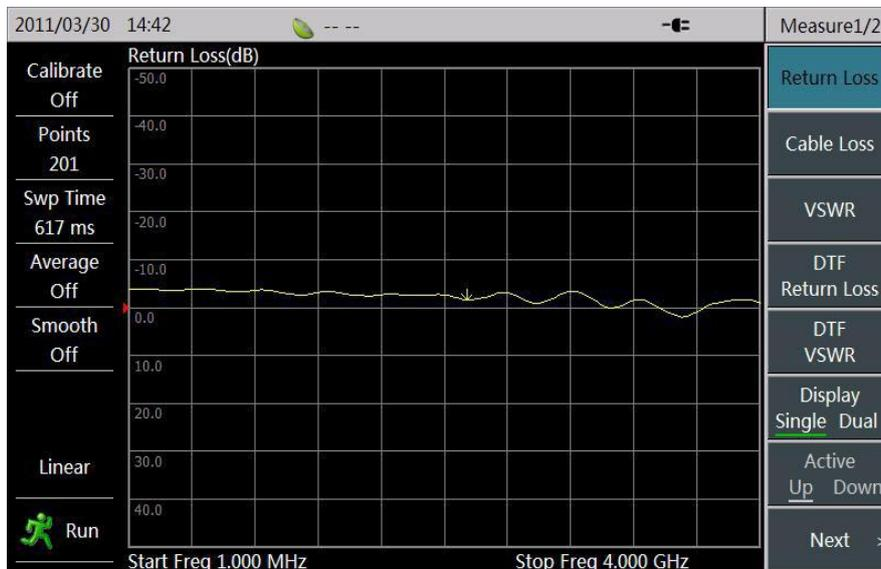

Figure 3.5 Selection of Measurement Format
2. Select [Return Loss] menu to set the current measurement format of instrument as “Return Loss”, as shown in Figure 3.5.